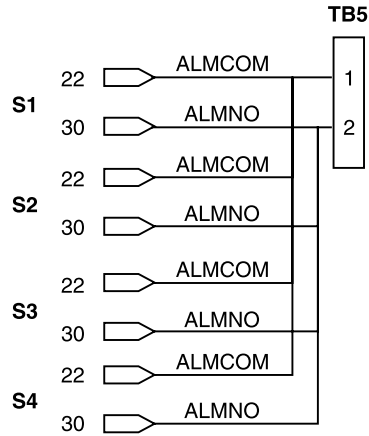

Figure 9. System Alarm (TB5) Pin Assignments
When HLU-431 line units are installed in the HRE-204, the Normally Open (NO) and Common (COM) system alarm relay contacts are bused together and made available on the Euro-style terminal block TB5. Figure 9 shows the TB5 pin assignments.